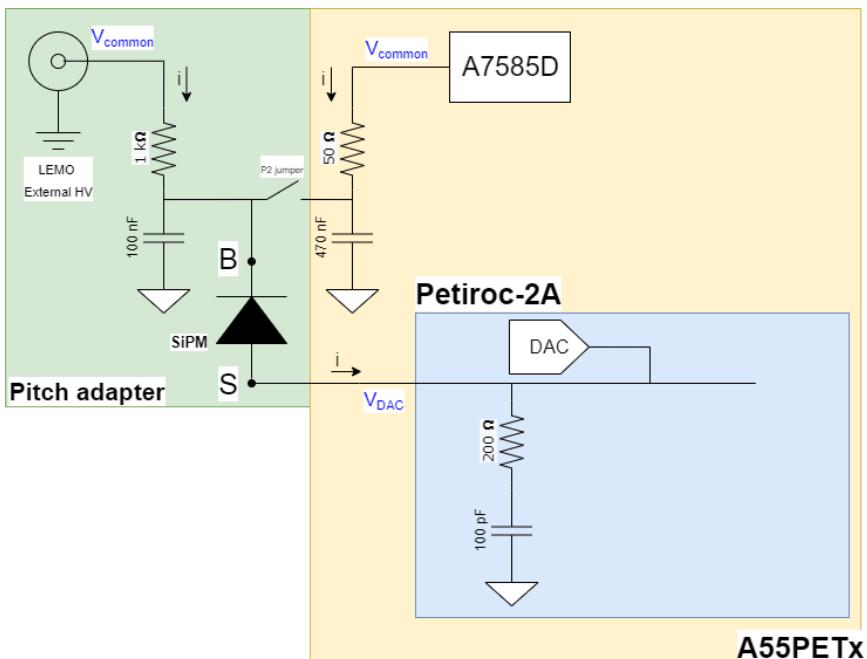

Figure 10.6: SiPM connection scheme to the ASIC and biasing lines when using the pitch adapter kit
The adapter provides 64 signal readout lines (S_x) and 64 sensor bias (B) lines. Each adapter has two 2.54mm-pitch strip connectors, each one exposing 32 bias/signal couples. Once the adapters are plugged in, the bias can be provided by the A7585D on the A55PETx board itself or externally through the LEMO HV connector available on the adapter. The jumper P2, if inserted, connects the bias pins to the DT5550W High Voltage generator while the LEMO connector is always connected to the Bias pins. The adapter is designed to optimize connections to SiPMs. Each detector has independent bias lines filtered with $1\text{k}\Omega$ resistor and 100nF capacitor, as shown in Figure 10.6
External HV	LEMO HV. External High Voltage input for SiPM biasing. Connection to SiPMs cathodes as shown in Figure 10.6. The external HV connector is always connected to the Cathode pins B